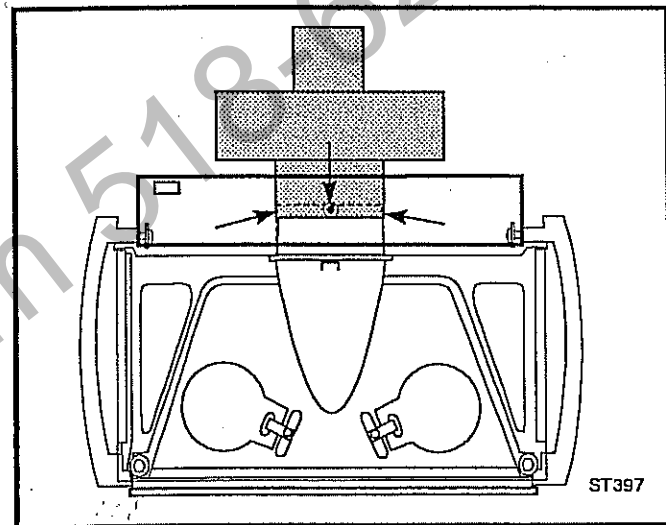

Fig. 40 Use stub handle phillips screwdriver to fasten the transition connector to the flue collar with three sheet metal screws.
3. Remove any temporary props from below the Transition Connector in the fireplace. Move the heater firebox/shell assembly into position in front of the fireplace. Have a helper support the Transition Connector, and guide its intake and exhaust pipes into the starter pipe and the flue collar on the back of the firebox. Align the three screw holes on the Transition Connector collar with the holes in the flue collar. You may need to drill a 3/8" hole through the top of the shroud panel to access the upper screw. Use a stub handle phillips screwdriver to secure the joint with sheet-metal screws. (Fig. 40)